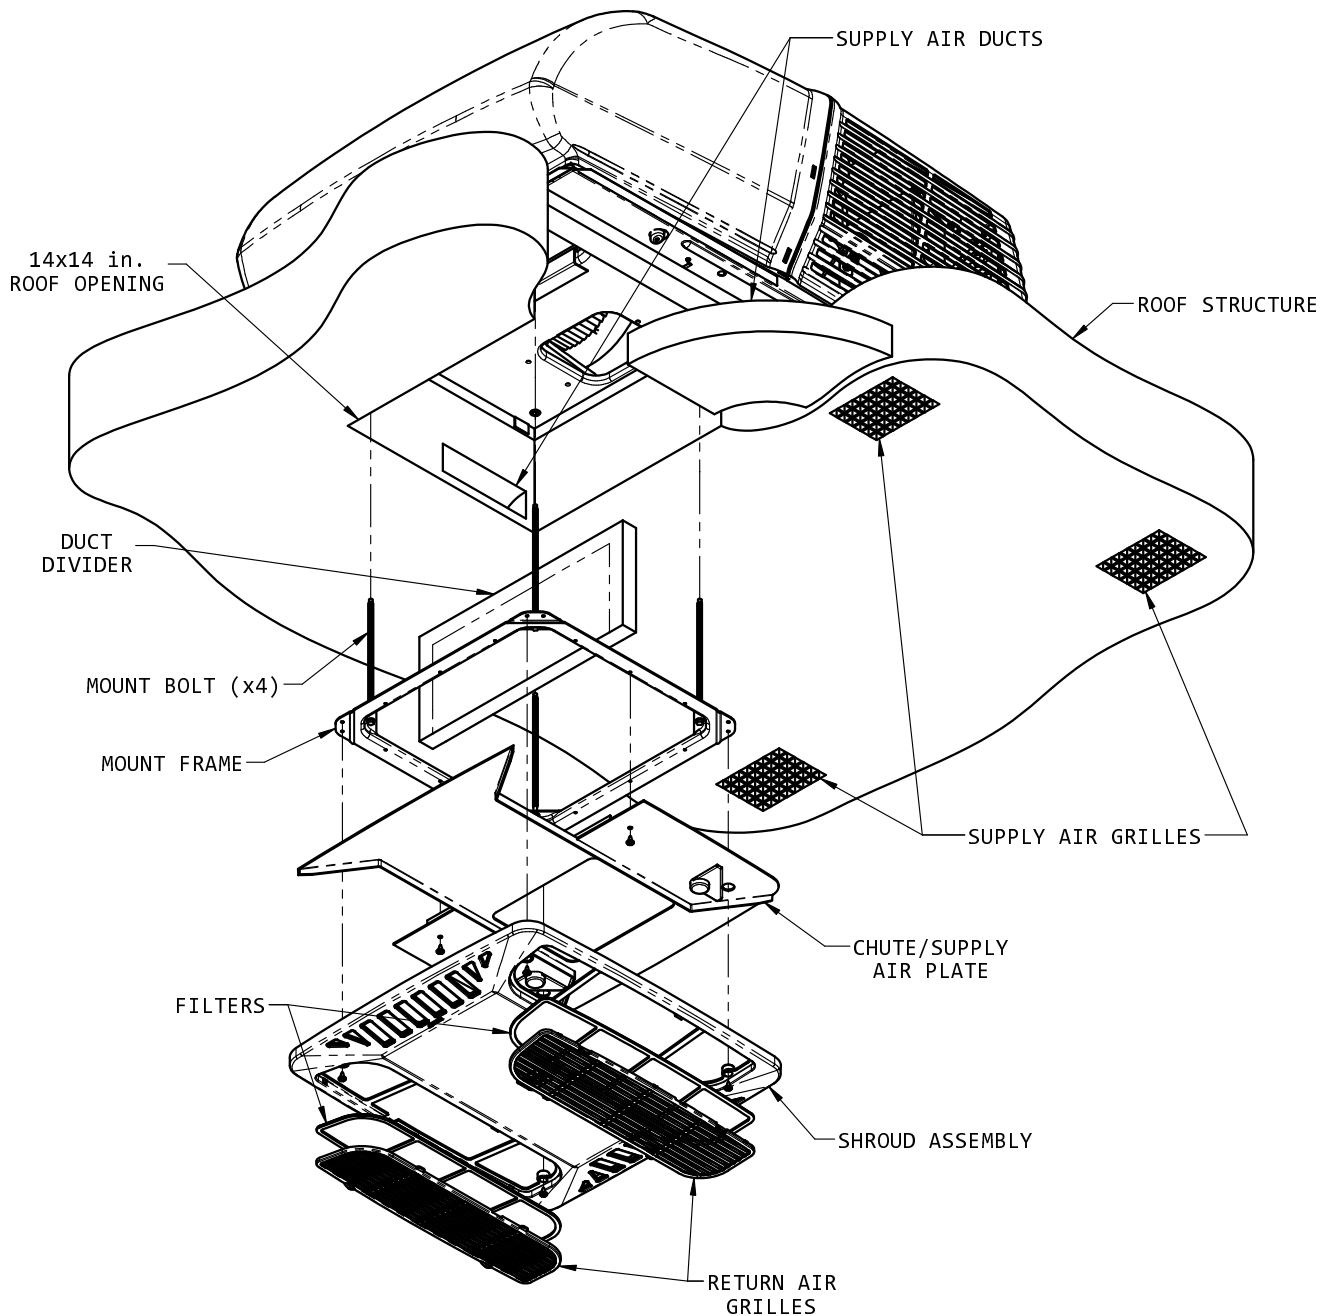

FIGURE 1
1. The field fabricated supply ducting must attach to both sides of the ceiling plenum. A minimum of two ducts are required, with one duct attached to each side of the plenum (See Figure 1).
- 2. Position the mount frame into the ceiling opening (See Figure 1).
- 3. Using the four bolts provided, secure the mount frame to the roof top unit. The four mounting bolts are to be applied up through the bottom of the mount frame and into the bottom of the roof top unit (See Figure 1). Tighten each bolt until the indicators of the gasket are at roof level.
1. Raise the chute/supply air plate to the mount frame and ensure the plenum duct divider is positioned between the two ribs. Install the chute/supply air plate to the mount frame with 2 screws provided in the parts package (See Figure 1).